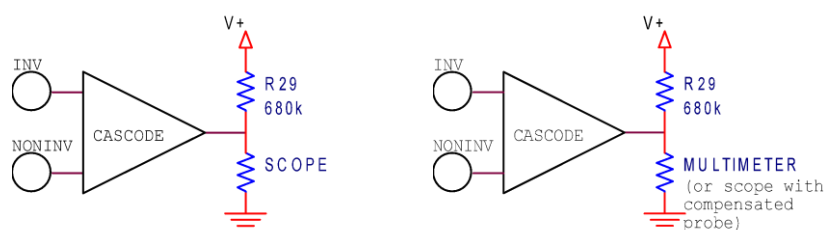

Figure 6
- 5.6. In the experiment, you will use potentiometer P5 to offset the output voltage. Suppose that someone attached R29 to the output and ideally set it at 9.3V . Now, you perform two measurements according to the circuits in Figure 6. Use the output resistance you found in section 5.4 (R_{out}), and calculate the measured output for both cases. Which is closer to the true value?